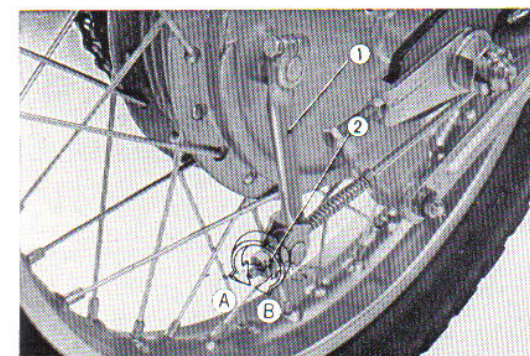

Fig. 4.106 Adjusting rear brake pedal play
7. Install the rear brake rod to the brake arm. Set the rear brake panel on its side and adjust rear brake play. (Fig. 4.106)